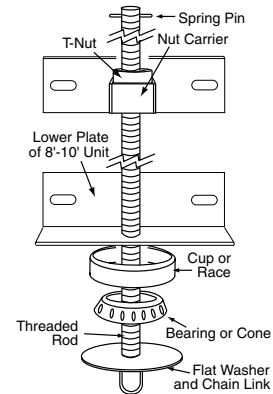

Figure 3
- ① Attach Nut Carrier and T-Nut to Height Adjuster.
- ② Install Threaded Rod Assembly through the bearing assembly, lower height adjuster plate and T-Nut (see Fig. 3).